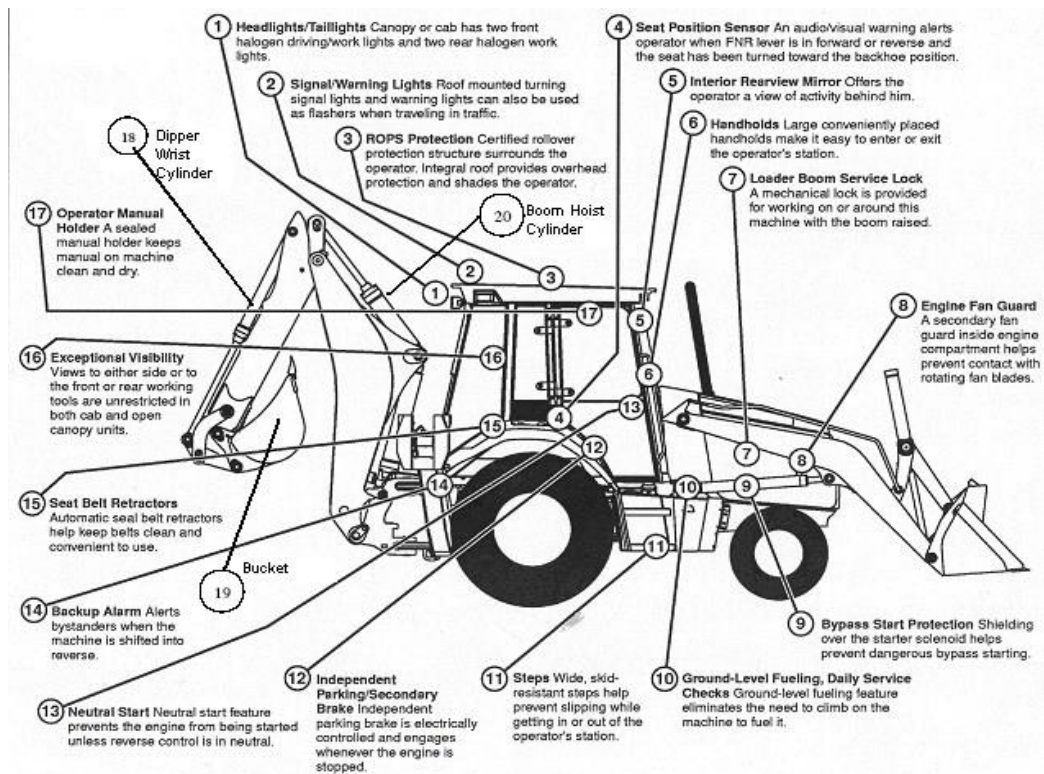

Figure 20: Backhoe with front loader (components)
2.7.1 Components of a Backhoe (see Figure 20)